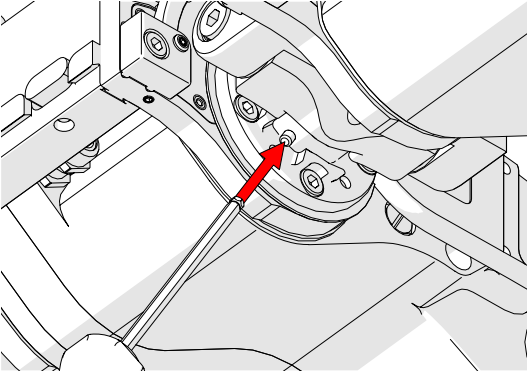
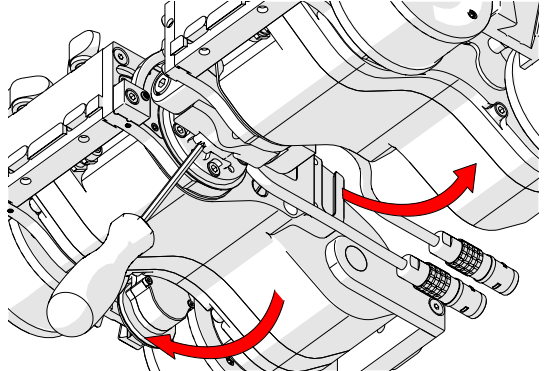

Fig. 114 - Press release pin
Fig. 115 - Press pin and rotate modules
1. Locate the release pin at the bottom of the **NAVIC** (Fig. 114). Using the supplied 3 mm hex driver, press the pin while rotating the two modules (Fig. 115).